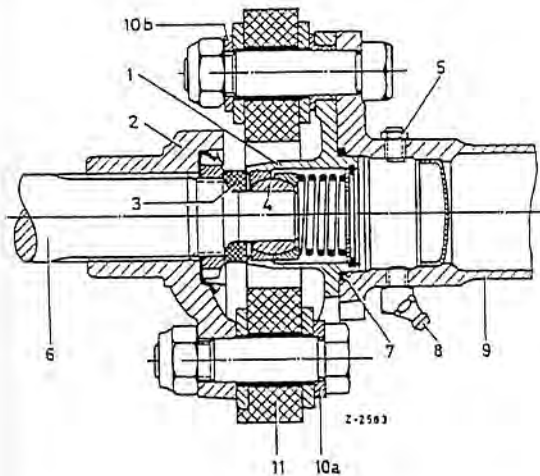

Fig. 26-1/5
(3) (see Fig. 26-1/7) and the intermediate shaft (4) of the three-unit propeller shaft on Model 200 and on the ambulance cars Models 200 D and 230 has been provided with two clamp nuts (3a and 3b) (see Fig. 26-1/8).